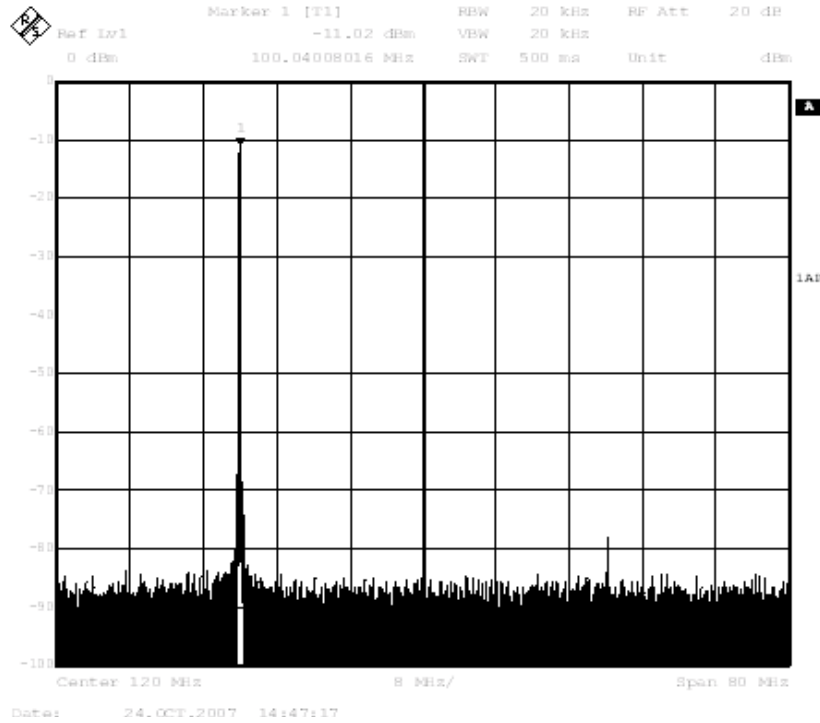

Figure 52. Filter Design Output Spectrum
3. Click *Configure*. The filter design starts. After the design is complete, the GUI programs the DDC, followed by the DUC. These actions display in the **Status** area. After *Finished* displays in the **Status** area, the user should see the output spectrum in Figure 52.